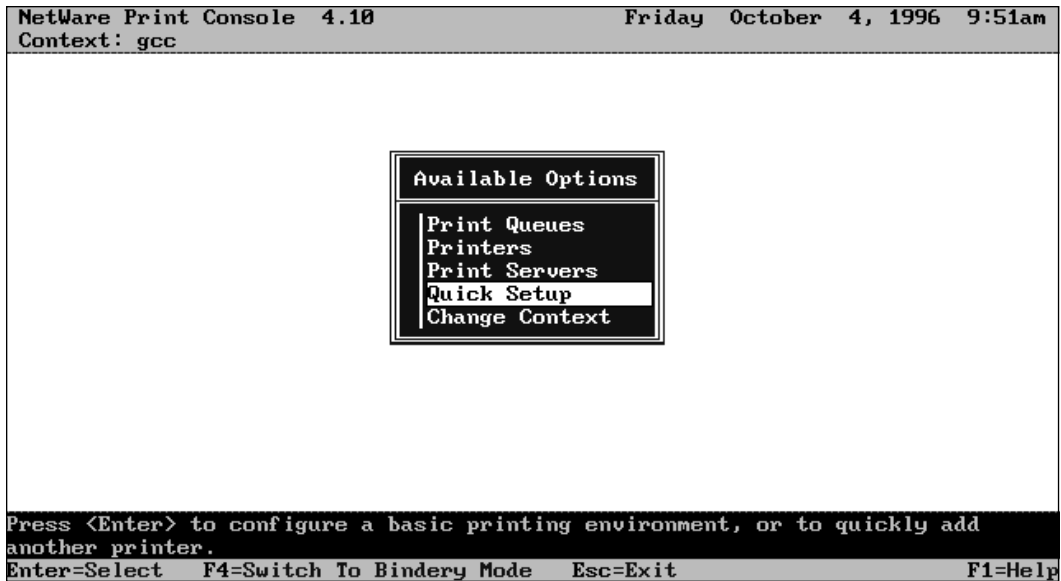

Figure 3. Choosing Quick Setup from PCONSOLE's opening screen.
4. Choose **Quick Setup** and press **Enter** (*see figure 3*).